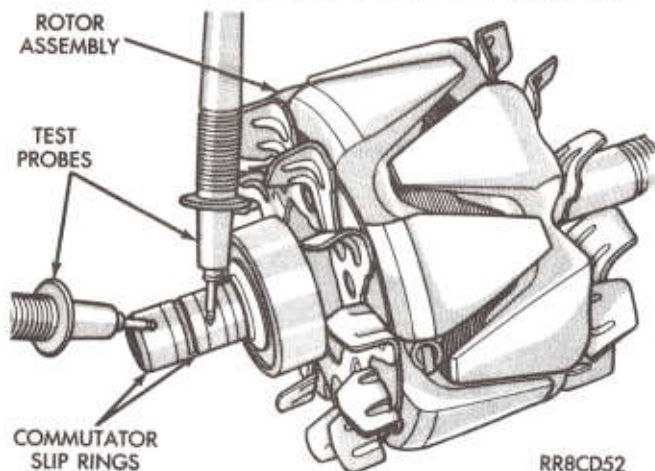

Fig. 11—Test Rotor Field Circuit
(1) Inspect the field slip rings for excessive wear or roughness. Minor damage can be dressed out with a fine emery cloth. If the slip rings are too badly damaged, the rotor should be replaced.
(2) Using an ohmmeter, test for continuity from one slip ring to the other; the circuit should be closed (Fig. 11).